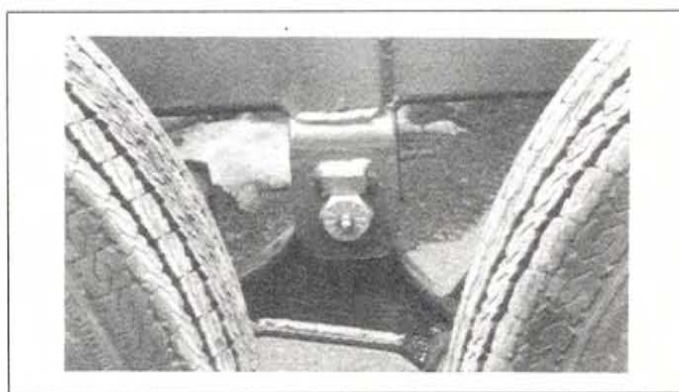

Fig. 23 SUSPENSION SYSTEMS
3. Grease suspension system at 2 locations (1 shot). See Fig. 23